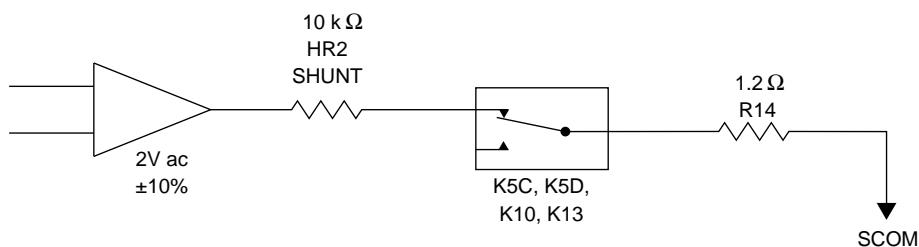

Figure 5-8. Verifying the 220 μ A Range of the 220 μ A/2.2 mA Amp Circuit
4. Check the 220 μ A range of the 220 μ A/2.2 mA AMP circuit. Set the 5700A to 200 μ A, standby. Set the external ac reference to 6.4V(± 0.1 V) at 1 kHz. Using a DMM, measure the ac voltage at the collector of Q4 and verify it is 2.0V ac $\pm 10\%$. If a failure is detected, first verify that the 10 k Ω shunt on HR2 is correct and that it is connected to SCOM thought relays K5C, K5D, K10, K13 and the 1.2 Ω load resistor R14 as in Figure 5-8. If the shunt and output switching is correct check Q4, Q5, K3, and the associated components in the 220 μ A/2.2 mA AMP circuit.